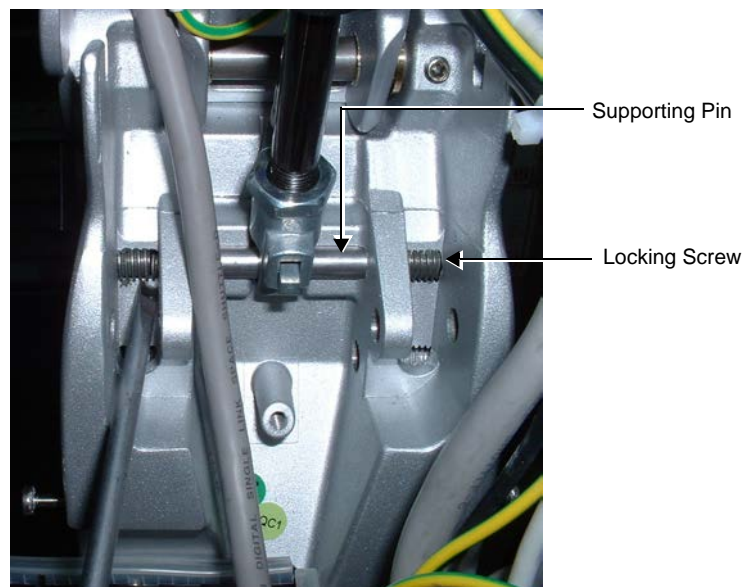

Figure 8-199 Lower Section of Gas Spring showing Connecting Pin and Locking Screws
- 5.) Position the gas spring cable in the Upper Support arm and connect the lower part of the gas spring at the base of the upper support arm - Figure 8-199.
- 6.) Insert the supporting pin, threading it through the brackets and the lower gas spring holder, as shown in Figure 8-199.